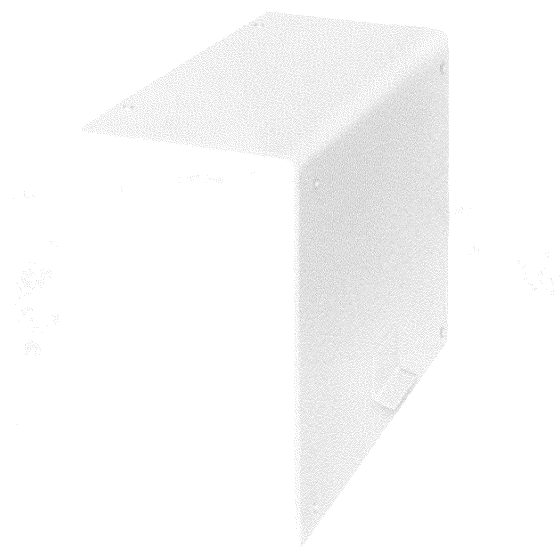

Fig. 19—KS-19267, List 15 Subset Mounting Bracket
- (1) Place flange of KS-19267, List 15 subset mounting bracket (Fig. 19) on edge of right-hand curved column and secure to List 14 mounting bracket using two 8-32 by 5/16 RHM screws, two No. 8 lockwashers, and two 8-32